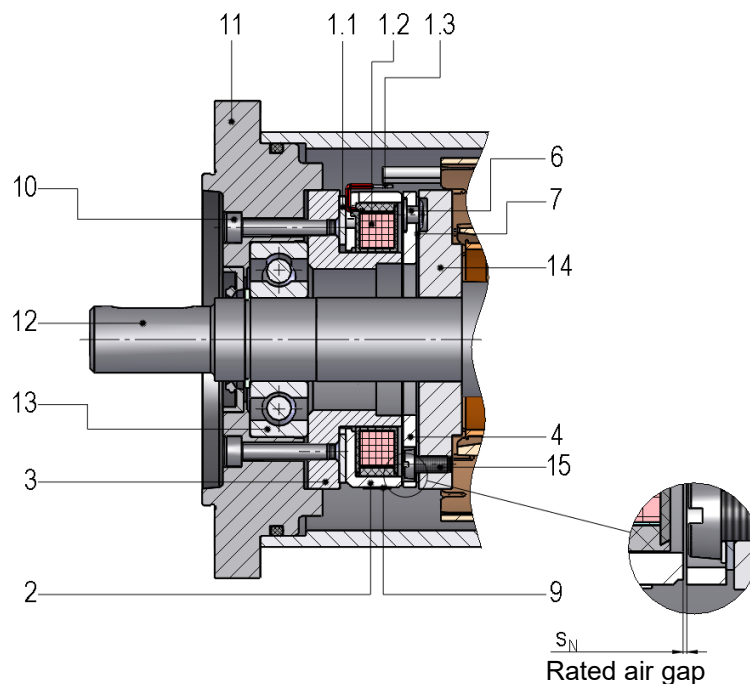

Fig. 12/1: Permanent-magnet single-face brake 86 611..H00 with armature 200
**List of reference numerals in Fig. 12/1:**